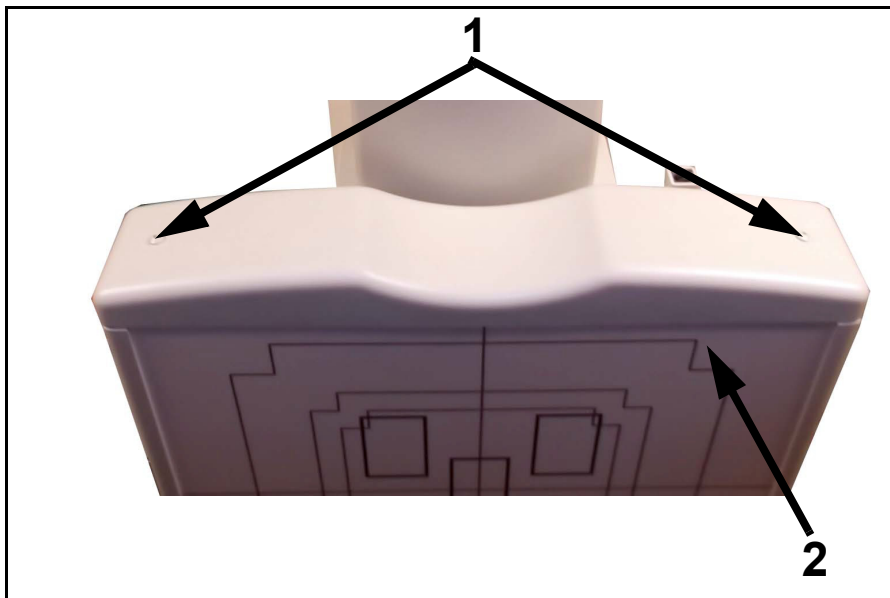

Figure 6-8. Top Cover Screws
- 2 Unscrew the two top cover screws (1 in Figure 6-8) and remove the top cover (2).